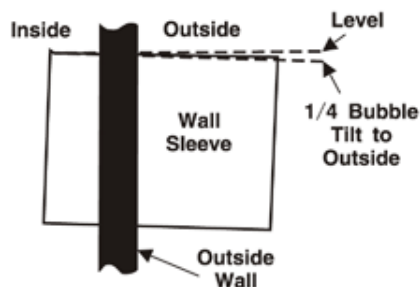

Fig. 4 Proper Sleeve Tilt
- A slight downward pitch from the indoor side to the outdoor side as shown below Fig. 4).